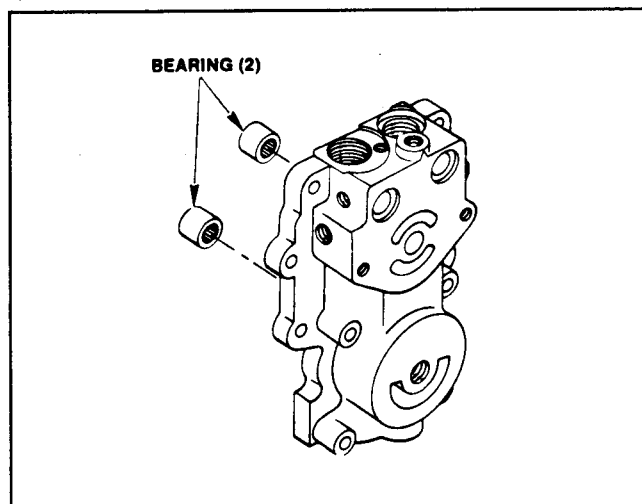

Figure 44
1. The needle bearings mounted into the center section have two functions. First, to provide the shafts with a friction-reduced means to rotate, and their secondary purpose is to pilot the pump and motor valve plates into their proper position. It is therefore very important that these bearings be reinstalled as described (Fig. 44).